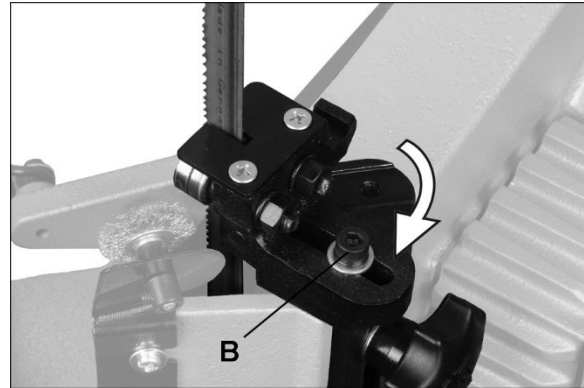

Figure 8-2: lower blade guide rotation (712DV only)
3. The blade guide brackets can be rotated to facilitate a more comfortable operating position while in vertical mode. Remove screw (B, Figure 8-2) with 6mm hex key and position bracket in adjacent channel. Re-install screw.